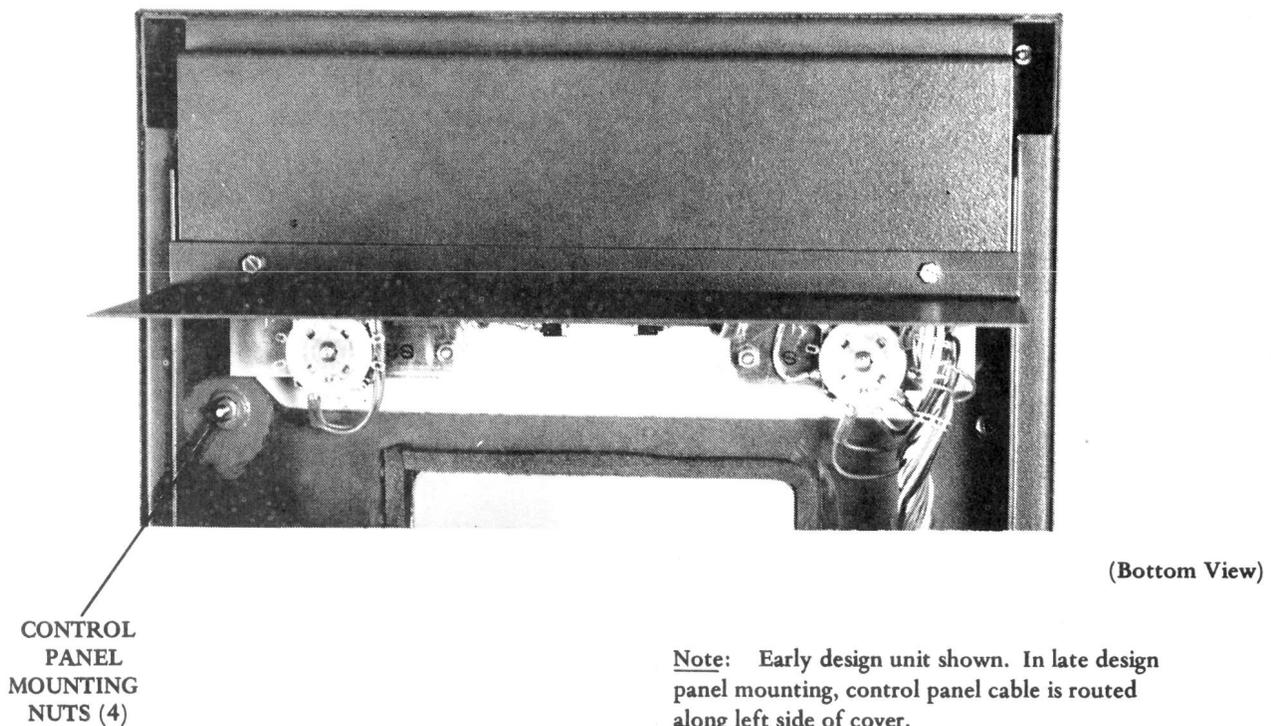

Figure 2 - Control Panel
- (1) Remove the cabinet front panel mounting screw (TP337284), then raise and latch the cabinet top and remove the front panel.
- (2) Remove four control panel mounting nuts (TP87639) and washers (TP107116) (Figure 2).
- (3) Separate connectors marked P311 and J311 by loosening connector mounting screws. Remove control panel cable from behind cable clamp. Raise front of control panel first and tilt panel to clear cabinet top, and remove.